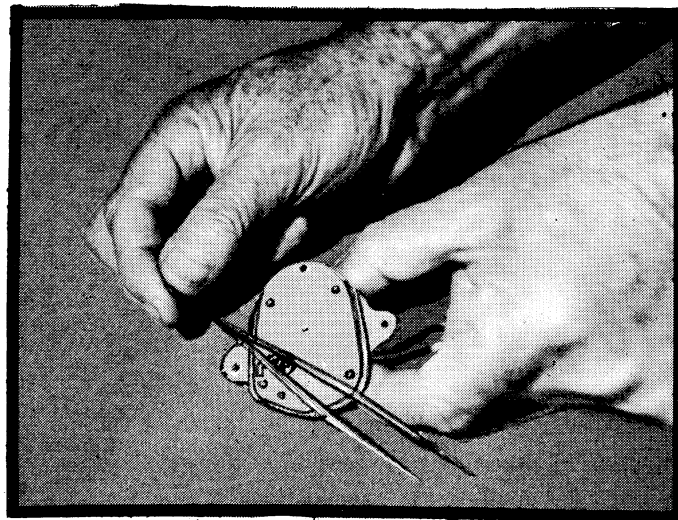

Figure 28
- g. Connect test cord from 115 volt circuit directly to timer motor. Place tweezers over shaft as in *Figure 28*, allow to turn freely for a few revolutions.